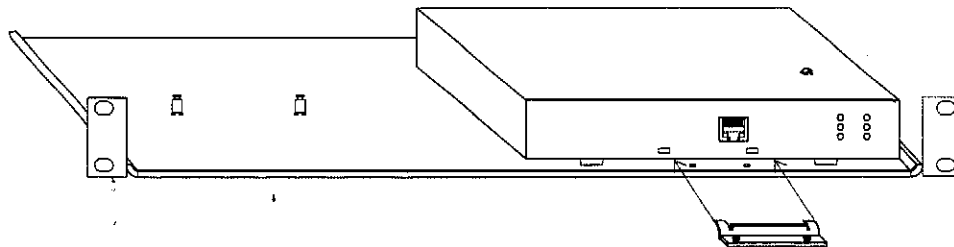

Figure 3-6: Inserting Rackmount Bracket Into Remote Adapter
4. Insert the two slats on the rackmount bracket into the two rectangular holes on the Remote Adapter front panel. See Figure 3-6 below, for an illustration of how to insert the bracket into the Remote Adapter.